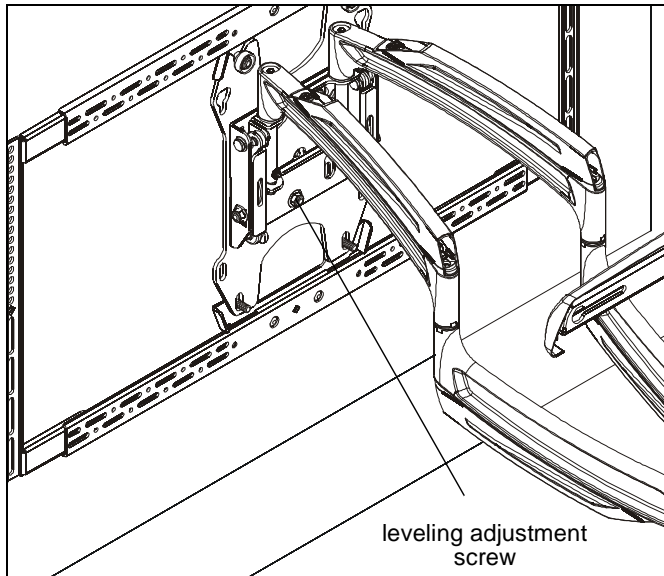

Figure 25
1. Adjust leveling adjustment screw on back of faceplate to increase or decrease leveling friction. (See Figure 25)